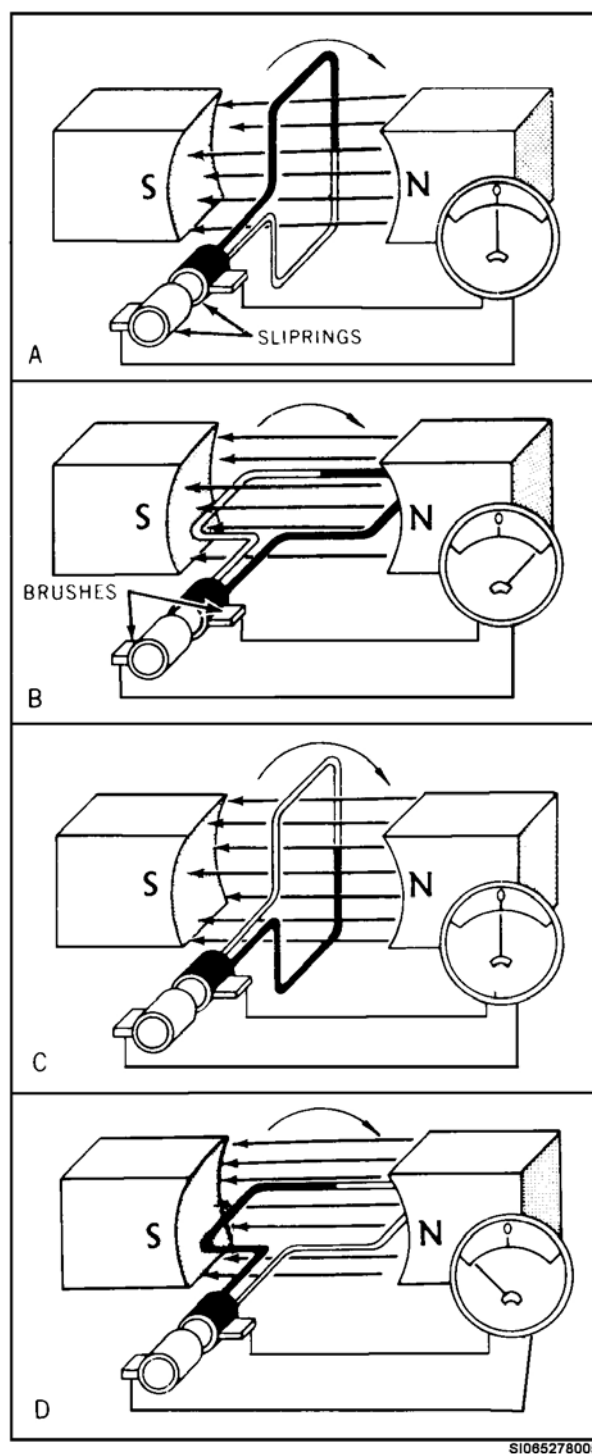
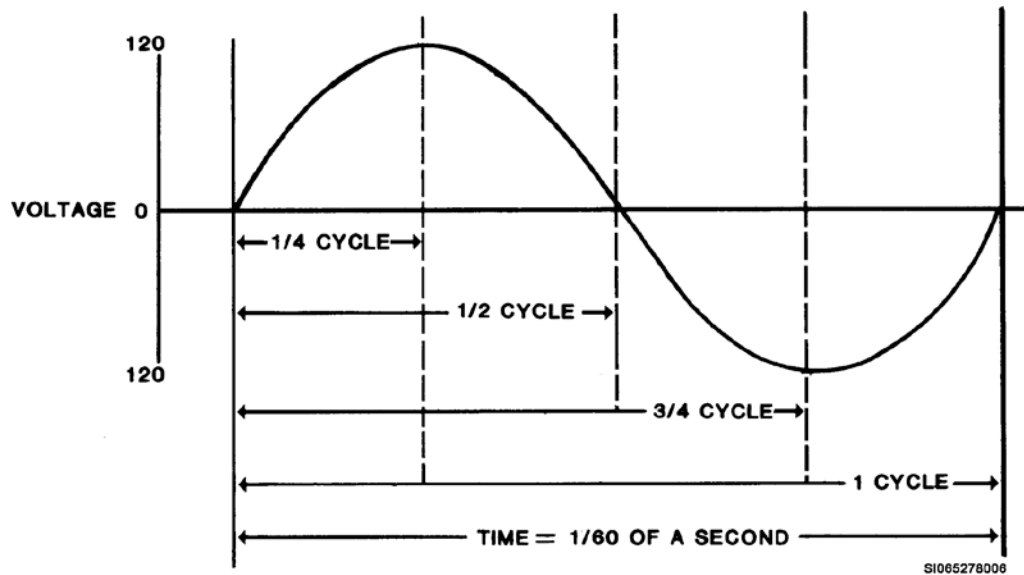

Figure 1-5. AC generator.
Figure 1-6. Graph of a complete AC cycle.
The machine that produces this current is an alternating current generator, or AC generator. A simplified diagram of an AC generator is shown in figure 1-5. In this figure, you can notice rotation clockwise from callout A to callout D. Since most AC is 60 cycle, it means that this pattern is being repeated in the alternating generator at the rate of 60 times per second. Figure 1-6 shows a graph of one complete cycle,  $1/60$  of a second. The graph breaks down each of four parts of the cycle. Notice how the power peaks at 120 volts (V) at the top and bottom peak. Power companies use water power, steam, or diesel and gasoline engines to produce electricity like this.